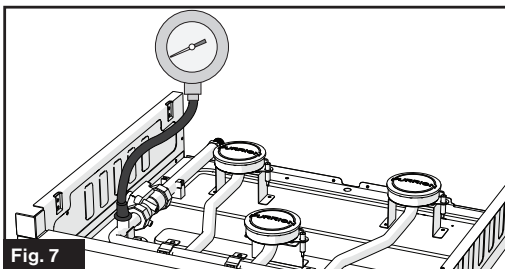

Fig. 7
5. The pressure gauge tester should measure between 10" WC to 13.8" WC. (Fig. 7)